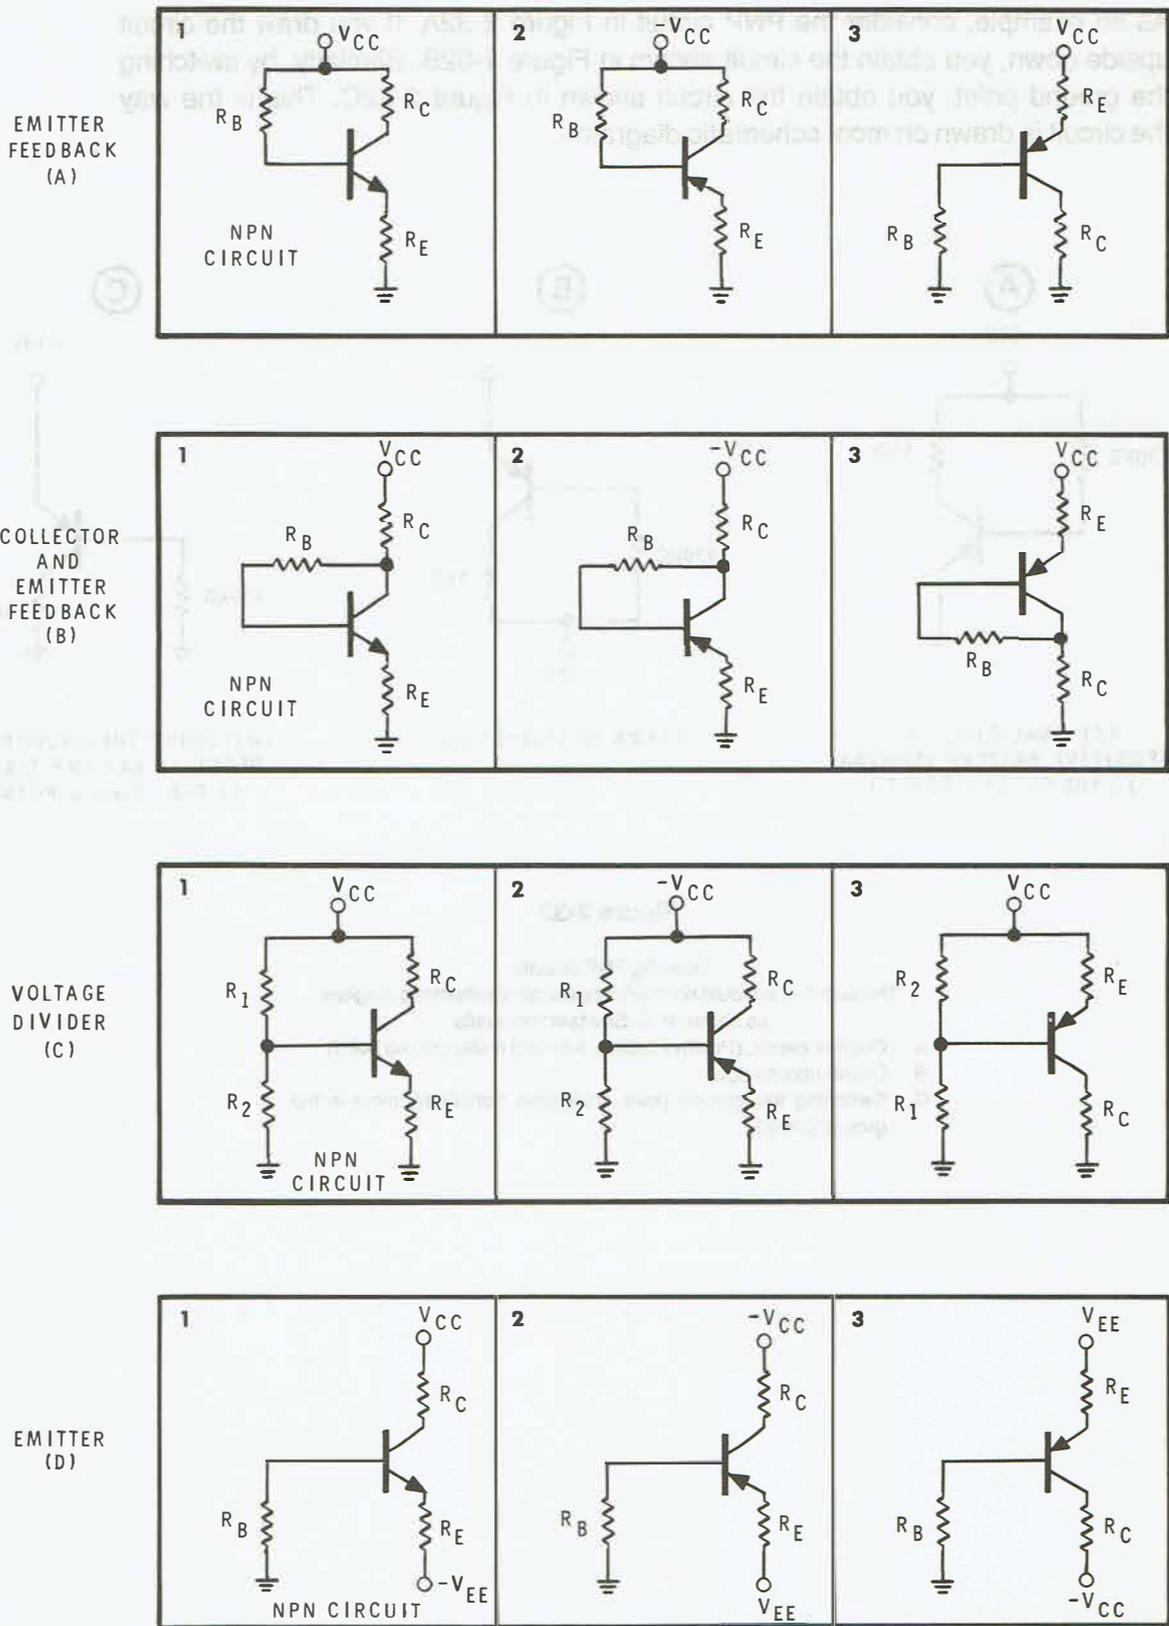

Figure 2-33
Figure 2-33 illustrates how additional PNP circuits usually appear on schematic diagrams. Note that for each biasing scheme:
In Figure 2-33, the circuits in boxes 2 and 3 represent the same physical circuit. Consequently, the transistor currents (I_B , I_C , and I_E) and terminal-to-terminal voltages (V_{BE} , V_{CE} , and V_{CB}) are identical.
In Figure 2-33, the only difference between the NPN circuits in box 1 and the complementary PNP circuits in box 2 is the fact that the current directions and voltage polarities are reversed.
For this reason, by working with **magnitudes**, you can also use the NPN analysis and design equations given previously to analyze or design the PNP circuits in box 2 of Figure 2-33.
2. Sketch the circuit as shown in the appropriate box 3 in Figure 2-33.